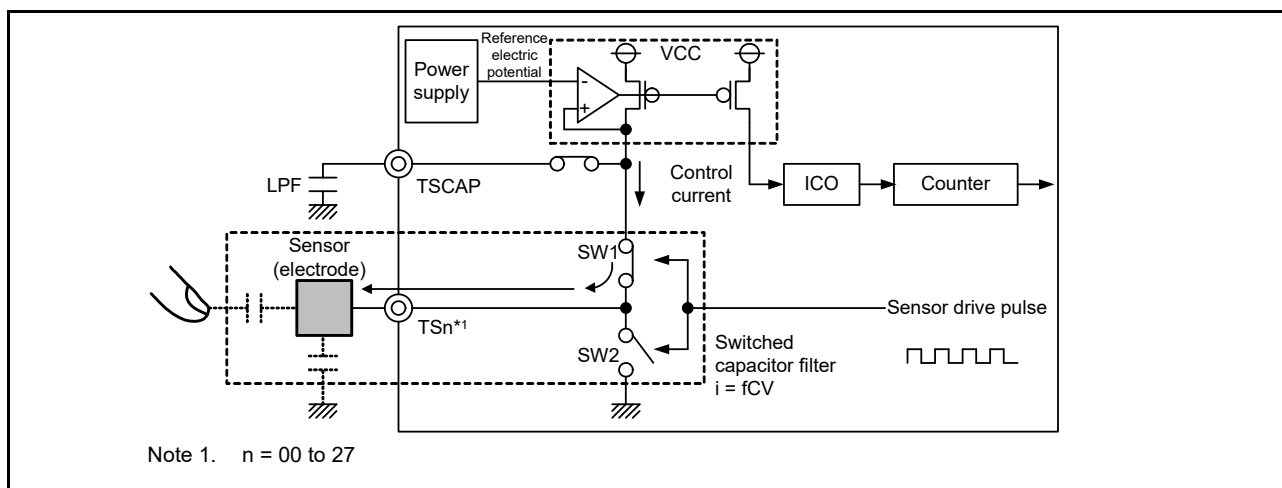
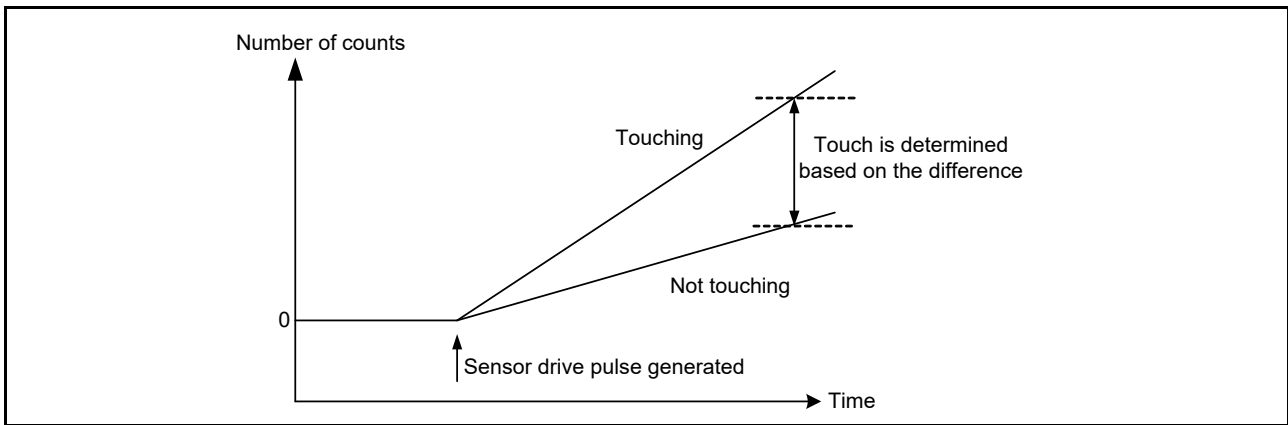

Figure 40.5 Charging operation
Figure 40.7 Change in measured value when finger is touching and not touching
Figure 40.5 to Figure 40.7 explain the electrostatic capacitance measurement operation principles of the CTSU current frequency conversion. The operation is as follows:
1. The electrostatic capacitance of the electrode is charged by turning SW1 on and SW2 off. See Figure 40.5.
3. Current flows to the switched capacitor filter by repeatedly charging and discharging the electrodes as in steps 1. and 2. At this point, if a finger is in close proximity, the capacitance and the flowing current change. A clock is generated by supplying a control current, which is proportional to the amount of the current flowing through the switched capacitor filter, from the circuit that generates the TSCAP power supply to the ICO. The counter measures the clock frequency that changes depending on whether a finger is in close proximity. Software uses the value read from the counter to determine contact with a finger. See Figure 40.7.